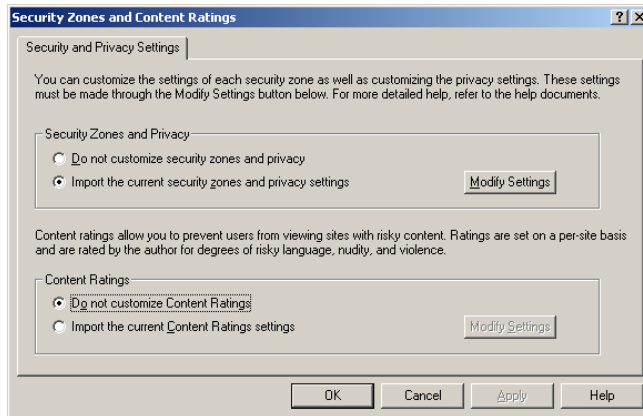

Figure 16. Security Zones and Content Ratings Dialog Box
to open the Security Zones and Content Ratings dialog box (Figure 16).
- to open the Security Zones and Content Ratings dialog box (Figure 16).